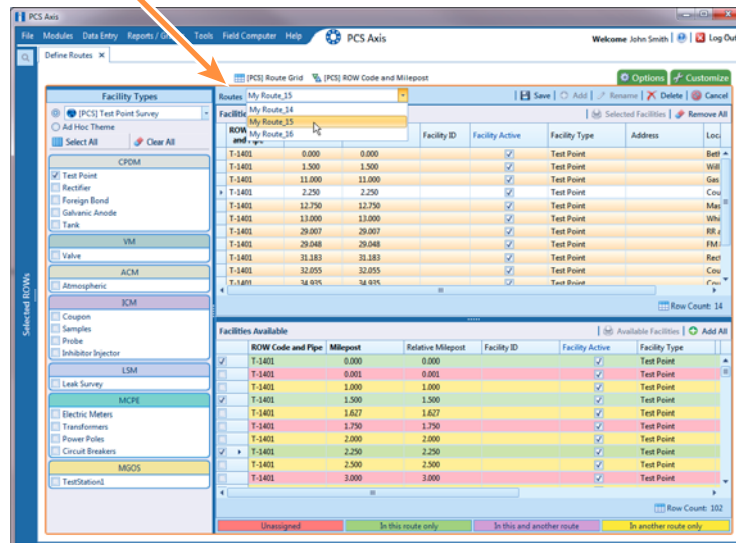

Figure 8-1. Define Routes
- 3 Click the down arrow in **Routes** and select a route in the selection list (Figure 8-1).
- b** Click **Data Entry > Define Routes**, then click the down arrow in **Routes** and select a route (Figure 8-1, page 352).